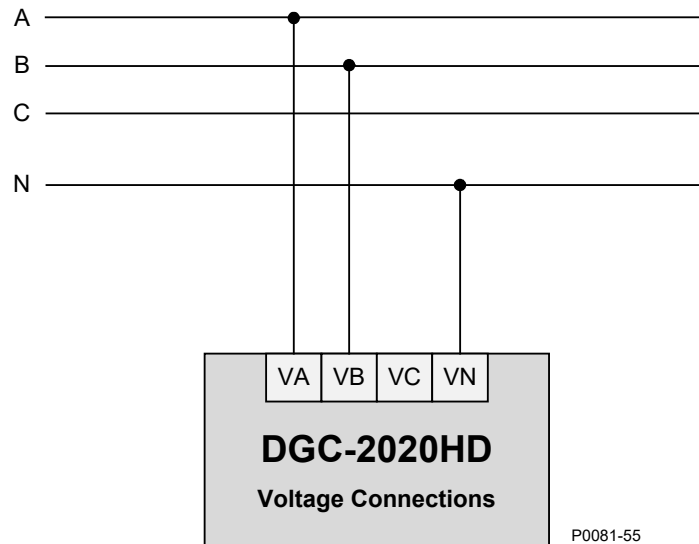

Figure 4-4. Single-Phase A-B Connections
- Single-phase A-B Figure 4-4
Figure 4-4 illustrates typical single-phase A-B connections for all DGC-2020HD bus voltage sensing connections: Generator, Bus 1, and Bus 2. Use the terminal numbers listed below for connecting the desired bus type. Refer to the *Terminals and Connectors* chapter for rear panel terminal numbering.